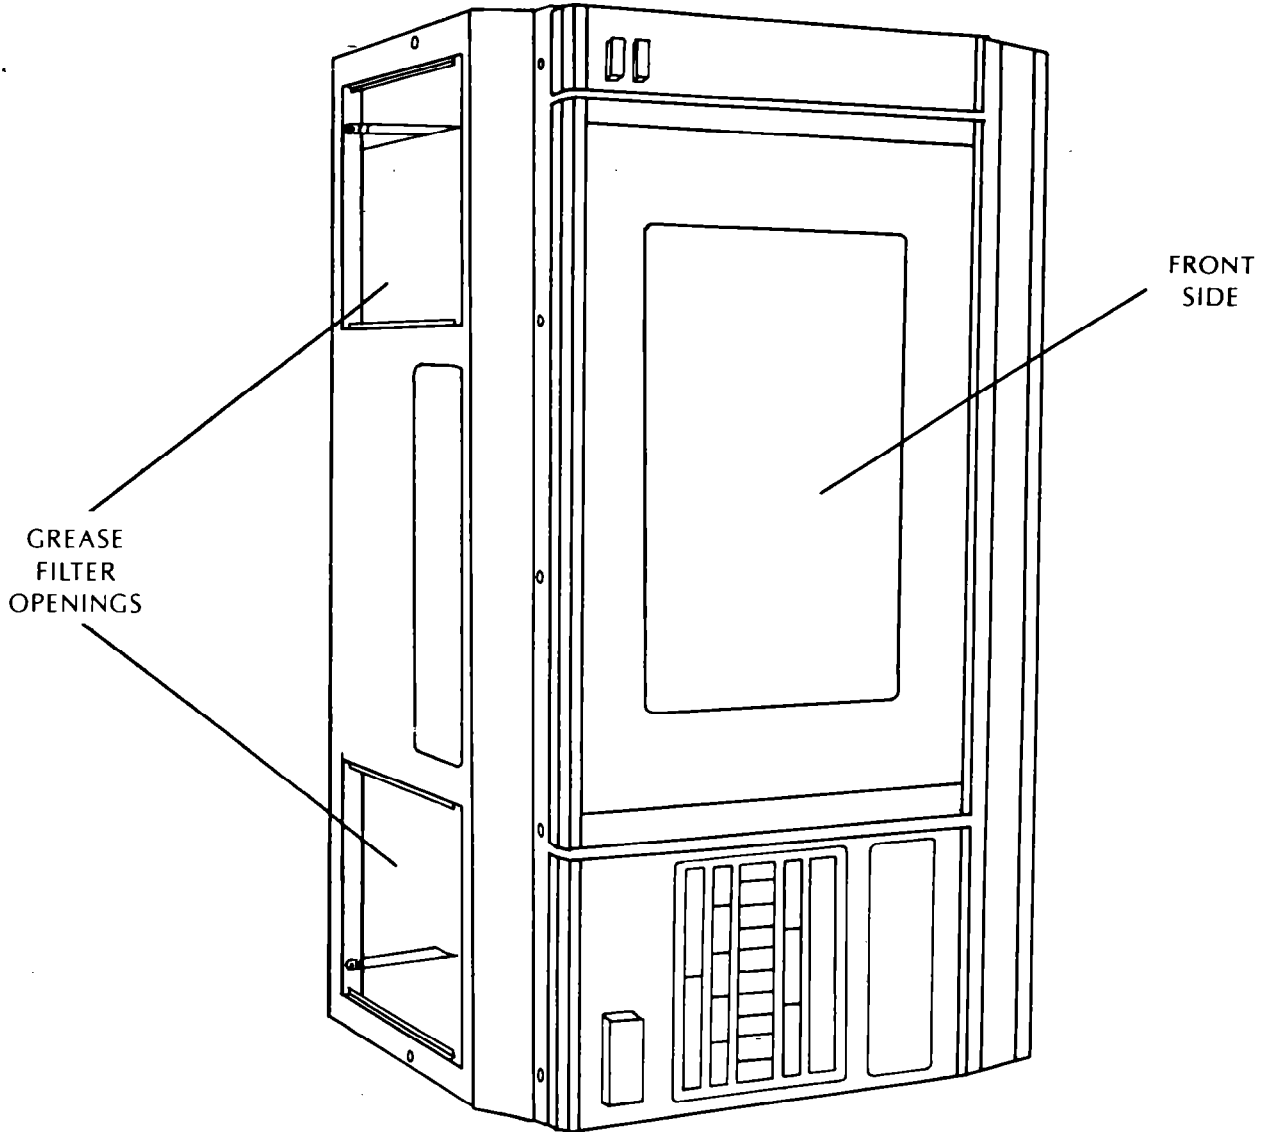

Figure 1
2. Stand the unit on its side as shown in **Fig. 1**.